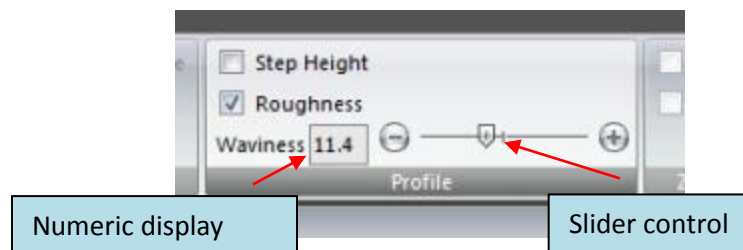

Fig. 73. Waviness controls
2. Move the waviness slider control from left to right. The control is shown in Fig. 73 and it is located under the *Roughness* checkbox in the toolbar. The far left slider position causes the value of zero to be displayed in the numeric field; this means that no waviness correction will be applied. As the slider moves to the right, the numeric value increases and the amount of correction increases.